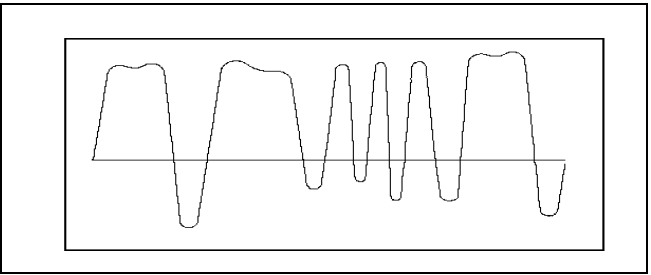

Figure 6 - Demodulated DCS Waveform
When performing the transmitter and receiver alignment prcedures, refer to Figure 6 for location of test points and adjustment controls.
- 3. Press the PTT switch and observe the demodulated waveform on the oscilloscope. Compare with Figure 6.